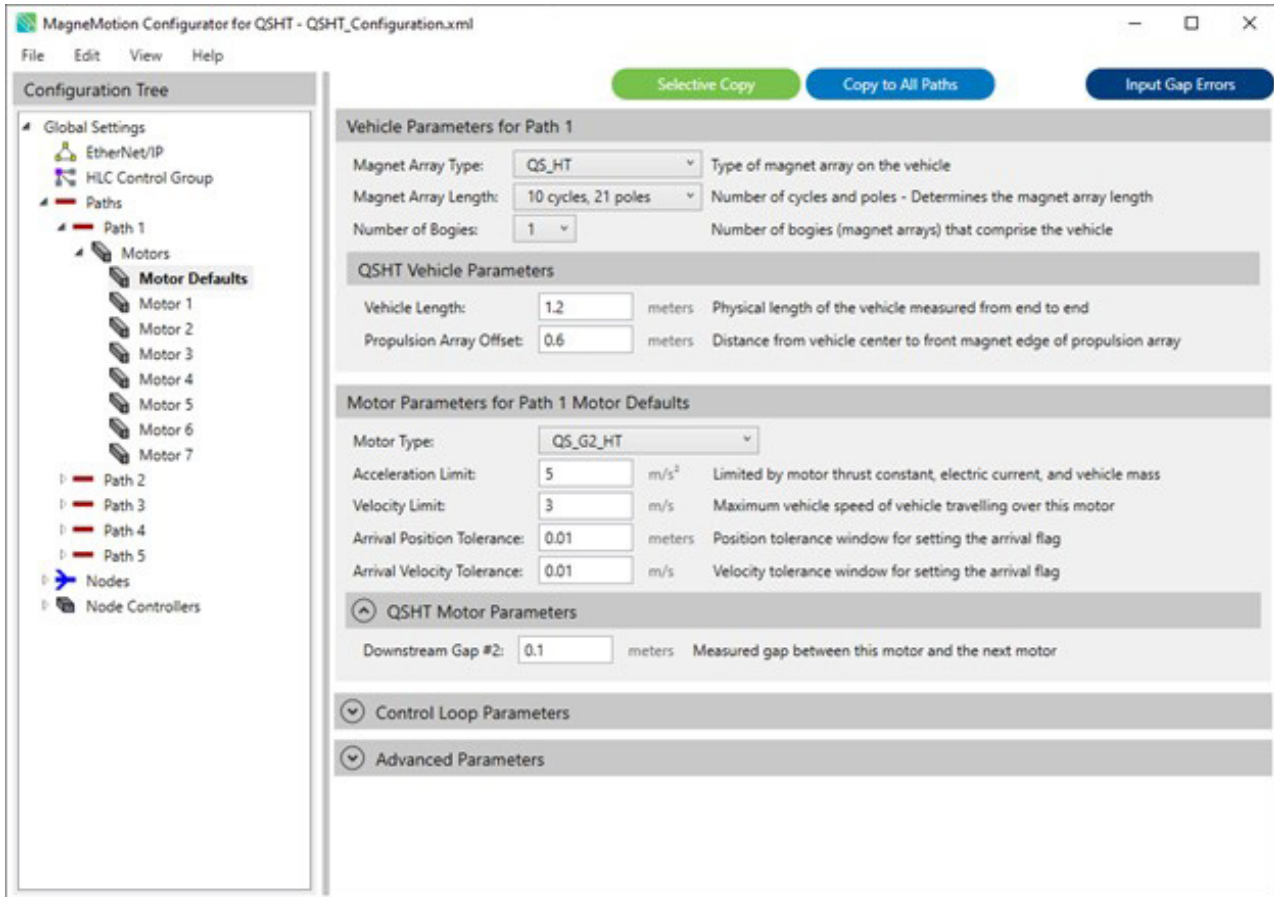

Figure 4-46: Motor Defaults Page - Selective Copy Button
3. Select **Selective Copy**. See the first button along the top of the Configuration Settings Pane in Figure 4-46.